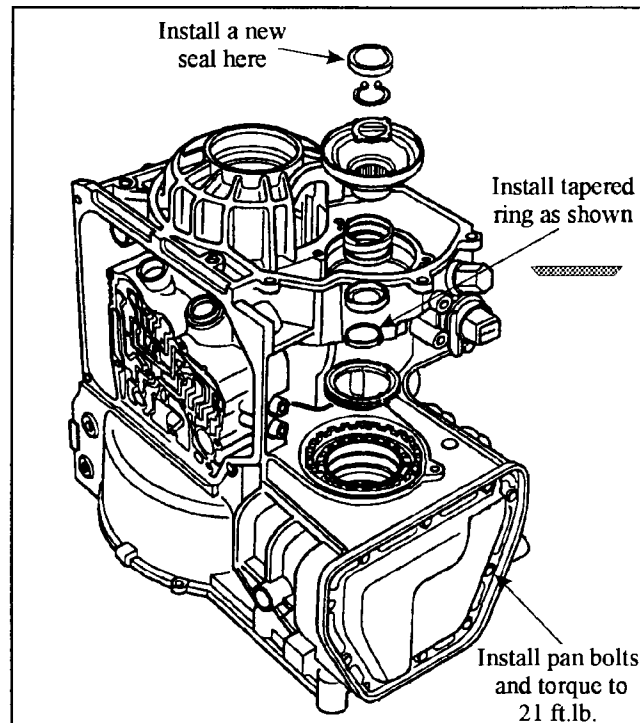

Figure 105
7. Install a new axle flange plug seal (See Figure 105).